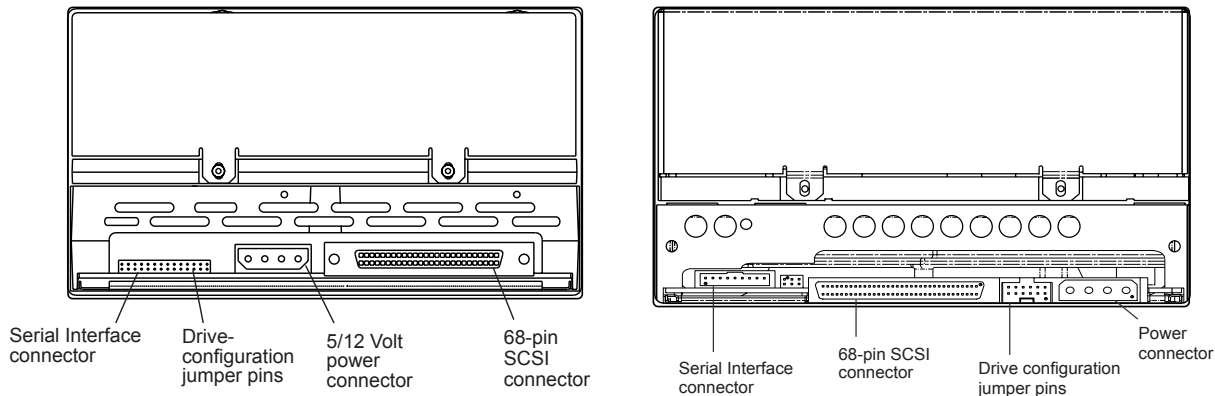

Figure 6. Rear View of the Internal LTO-1 (left) and LTO-2 (right) Drives
2. Attach the SCSI interface cable to the 68-pin SCSI interface connector on the back of the drive (see Figure 6 on page 20).
The Internal LTO-1 and LTO-2 drives include an RS-422 serial interface for tape libraries. This connector is located on the lower left side of the back of the drive (see Figure 6 on page 20).
Attach a four-pin power cable to the power connector on the back of the drive. Figure 6 on page 20 shows the location of the power connector.